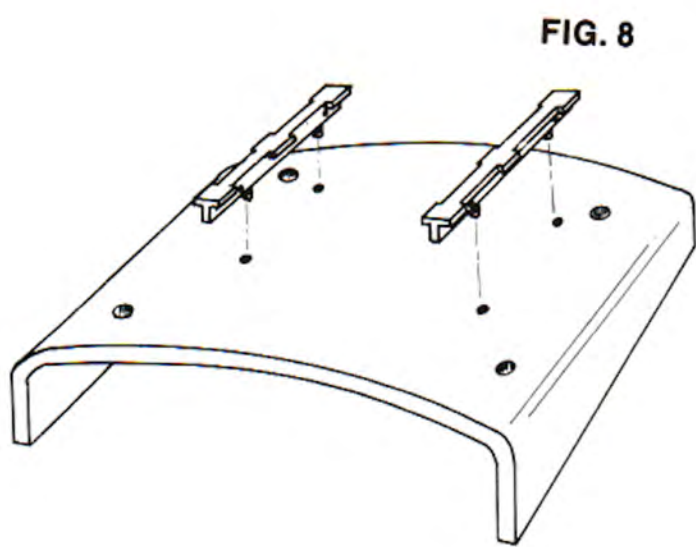

FIG. 8
- [X] Locate the two plastic feet and apply epoxy around the two shafts on each foot and the entire surface which will mate against the case body. (FIG. 8).
- [X] Insert the feet into the holes in the case bottom as shown in FIG. 8.